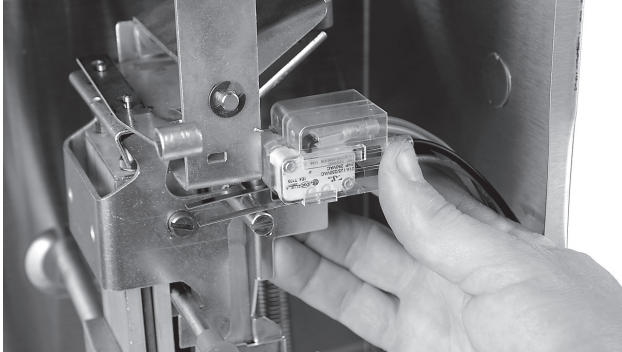

FIGURE 5-115
- Slide the switch cover onto the upper tab of the switch mounting bracket, ensuring that the tab slides into the channels on the back side of the switch cover, until the screw holes line up. See Figure 5-115.